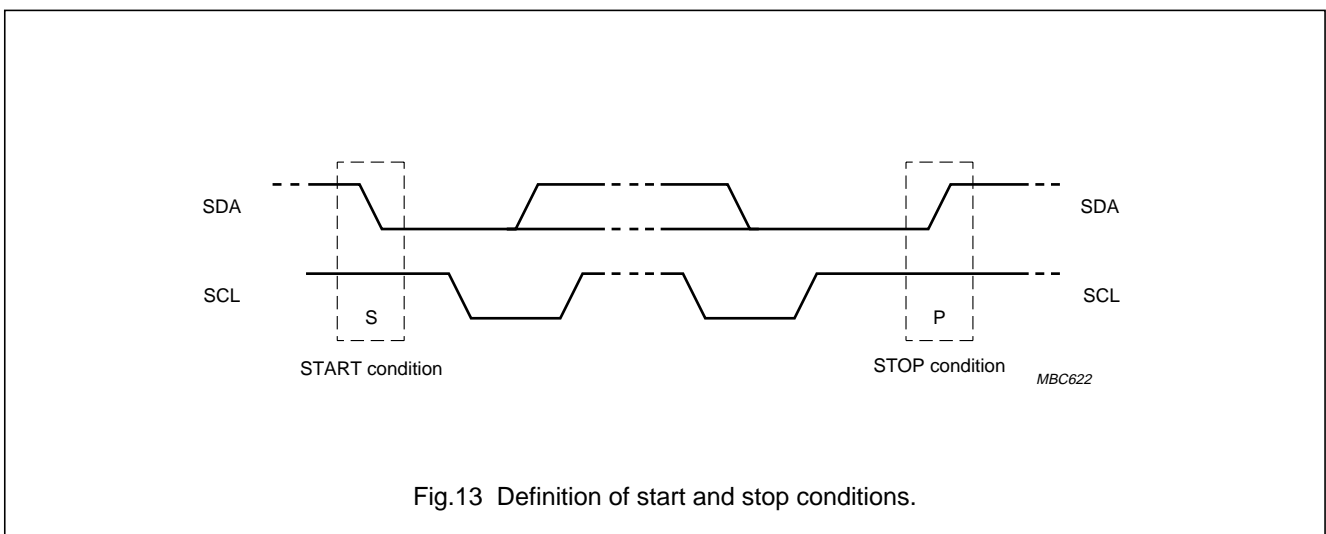

Fig.13 Definition of start and stop conditions.
**8.2 Start and stop conditions** (see Fig.13)